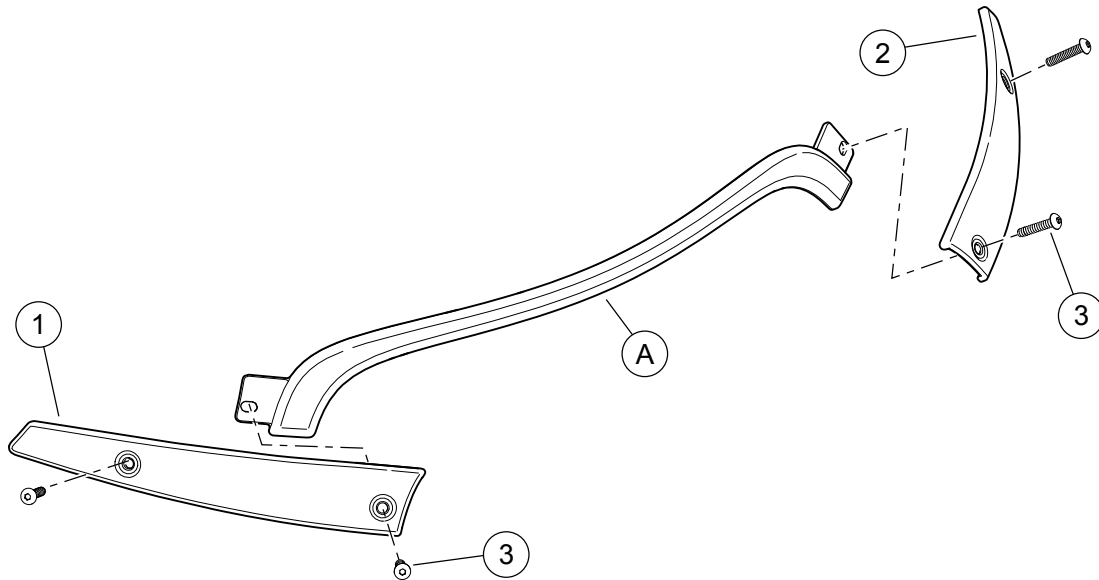

Figure 3. Service Parts: Road Glide Windshield Trim Kit
See Figure 3 and Table 1.
3. See Figure 3. Thread fasteners (3) from kit through the center windshield trim and into the open windshield mounting holes. Tighten finger-tight.
8. Thread fastener (3) from kit into the outer end of the right trim and into the open windshield mounting hole. Tighten finger-tight.